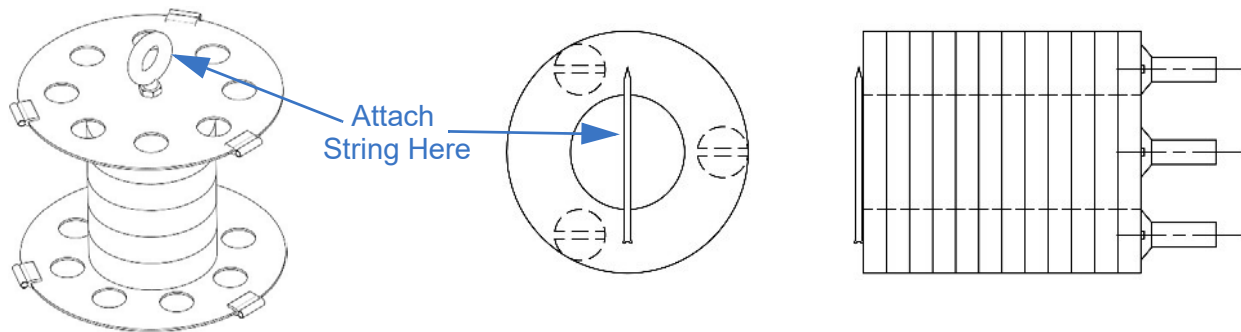

Figure 5-27 Magnet
1. Tie one end of a piece of string to the top of the magnet (Figure 5-27).